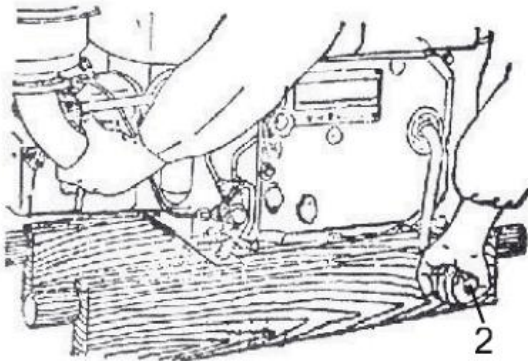

Fig. 7 Partida do Motor através da manivela de partida
- ✓ Insert the crank into the bore of the starting shaft. Push the pressure relief lever and start the engine until you see a normal fuel injection sound (Fig. 7).